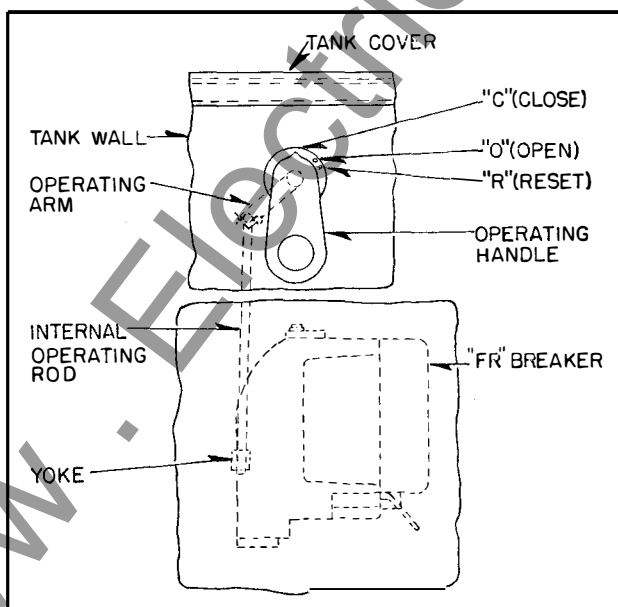

FIG. 9. "FR" Breaker Operating Mechanism.
**"FR" Breakers.** (See Fig. 9). With the vertical rod disconnected from the operating arm, set the breaker and the external handle in the fully-closed position. Rotate the rod until the upper end slips freely into the hole in the operating arm. Shorten the rod by rotating it two full turns clockwise, reinsert it in the operating arm, and secure it in place with a cotter pin.